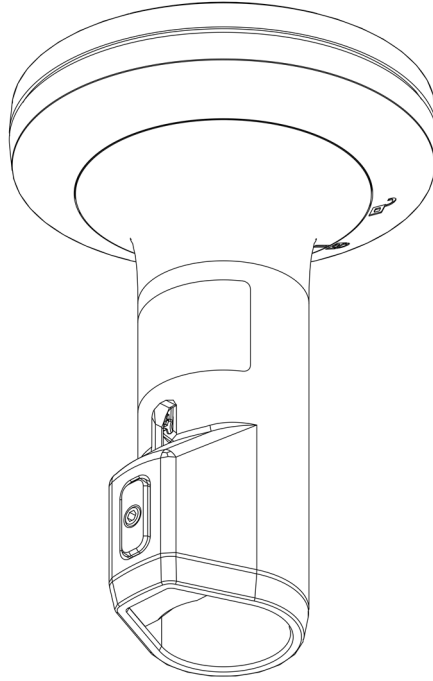

FIGURE 7: POLE MOUNT INSTALLATION STEP 1 (MAKE A RECORD OF THE UNIT SERIAL NUMBER)
Step 1: Unpack the LT-300 GNSS Receiver and make a record of the unit serial number for support or warranty issues that could occur in the future. The unit serial number label is fixed on the pole mount as illustrated on Figure 7.